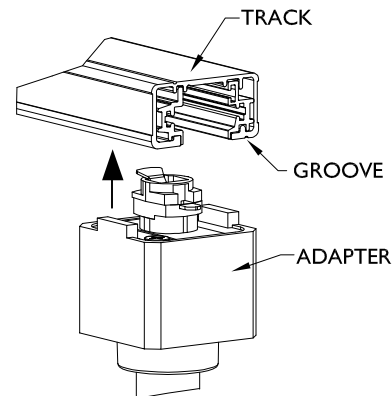

FIG. 4
1. Orient ADAPTER with TRACK as shown in FIG. 4.